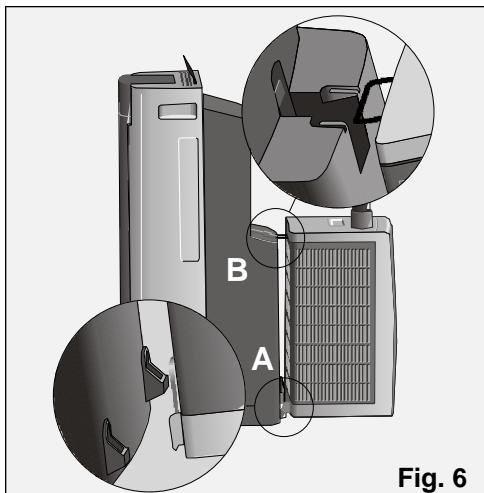

Fig. 6
- ❑ To make transporting the entire appliance easier, hang the outdoor unit onto the indoor unit as shown in **Fig. 6**. First, insert the lower extremities (**A**) and then the upper bar (**B**) of the outdoor unit into the indoor unit.